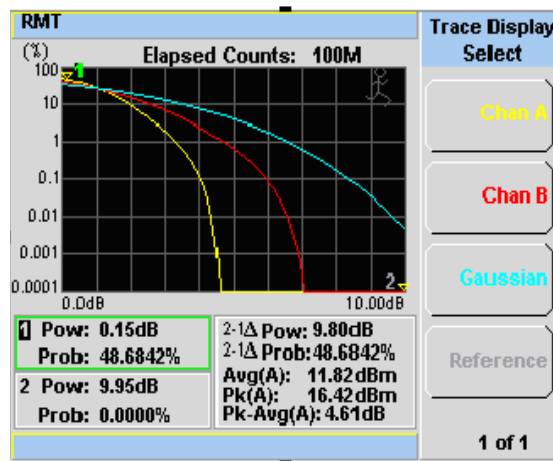

Figure 4-4 Trace Display Select control menu
- Press **Trace Control**, **Trace Display** and select the trace that you wish to display. The trace which is not selected is grayed out, as in Figure 4-4.